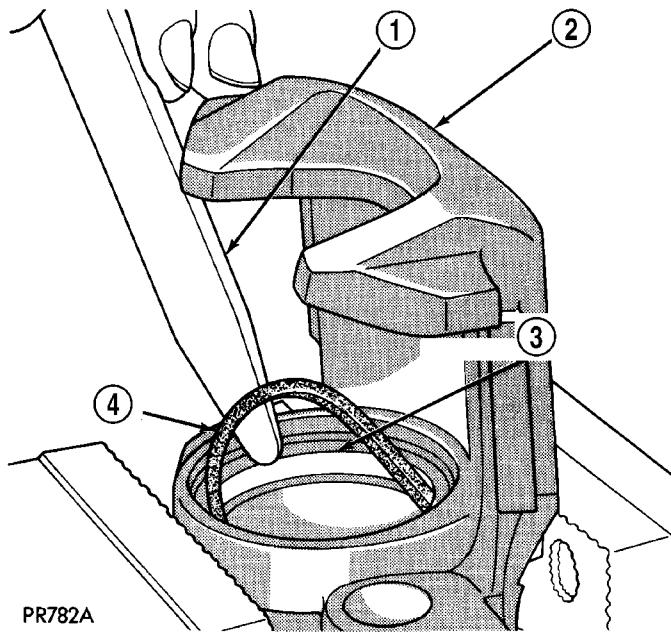

Fig. 47 Removing Piston Seal
(6) Using a soft tool such as a plastic trim stick, work the piston seal out of its groove in caliper piston bore (Fig. 47). Discard the old seal.
(7) Clean the piston bore and drilled passage ways using alcohol or a suitable solvent. Wipe it dry using only a lint-free cloth.
(8) Inspect the piston bore for scoring or pitting. Bores that show light scratches or corrosion can usually be cleared of the light scratches or corrosion using crocus cloth. Bores that have deep scratches or scoring should be honed. Use Caliper Hone, Special